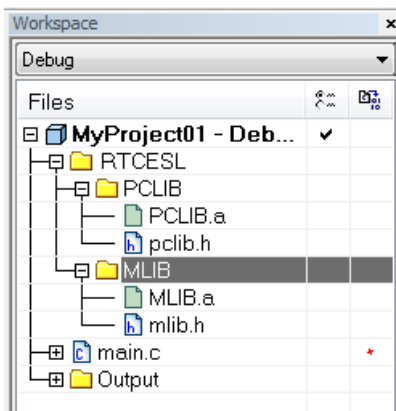

Figure 1-43. Project workspace
4. Click on the newly created node MLIB, and go to the main menu Project > Add Files... See Figure 1-43.
11. Now you will see the files added in the workspace. See Figure 1-43.